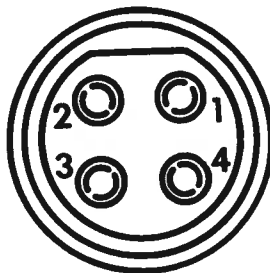

Figure 2.8 Manual Power Connector
- c. MANUAL POWER - Accepts the standard Inficon hand-held source power controller. When connected, the controller provides remote control of source power when the instrument is in MANUAL mode. The controller is a three selection switch. All positions are momentary and will return to rest when released. Pushing the SWITCH left or right causes the output control voltage to increase or decrease. Pressing the switch downward causes the Sentinel III to STOP (same as pressing front panel STOP button). (See Figure 2.8)
The MANUAL POWER Connector (Figure 2.8) pin designations are as follows: